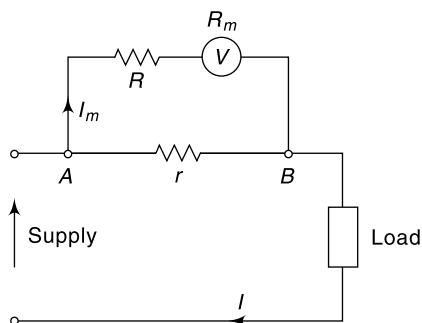

Fig. 13.12 Extension of range of voltmeter
The range of a voltmeter can be extended by connecting a high resistance (R) in series with its coil as shown in Fig. 13.12. The voltmeter is connected with the two points (A and B) across a resistance (r) whose voltage drop is to be measured.
We consider the circuit shown in Fig. 13.12. Let (V) volts be the maximum voltage to be measured (i.e. the drop across r)